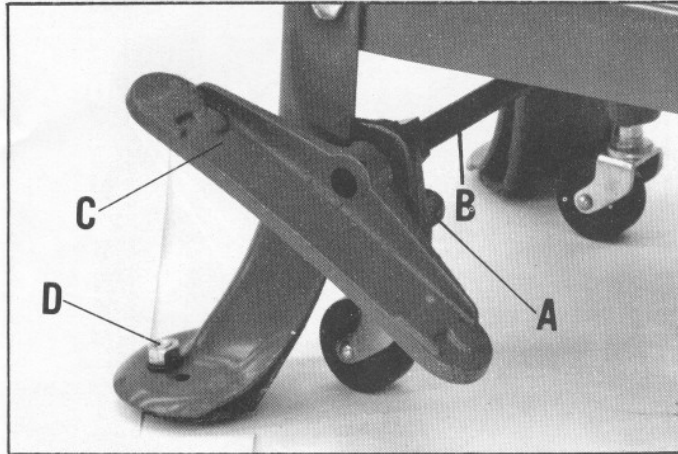

Fig. 8.
- Place caster mount bracket (A) Fig. 8, with shaft (B) and foot lever (C), inside and under steel stand leg and place flat head machine screw through the holes in the steel leg and bracket, from the bottom, and fasten in place with washer and nut (D) Fig. 8. Do not tighten nut (D) too securely at this time.
- Place spring washer, fibre washer and caster mount bracket on opposite end of shaft (B) Fig. 8. Place bracket on inside of steel leg and fasten in place with flat head machine screw, washer and nut. Now tighten both nuts securely.